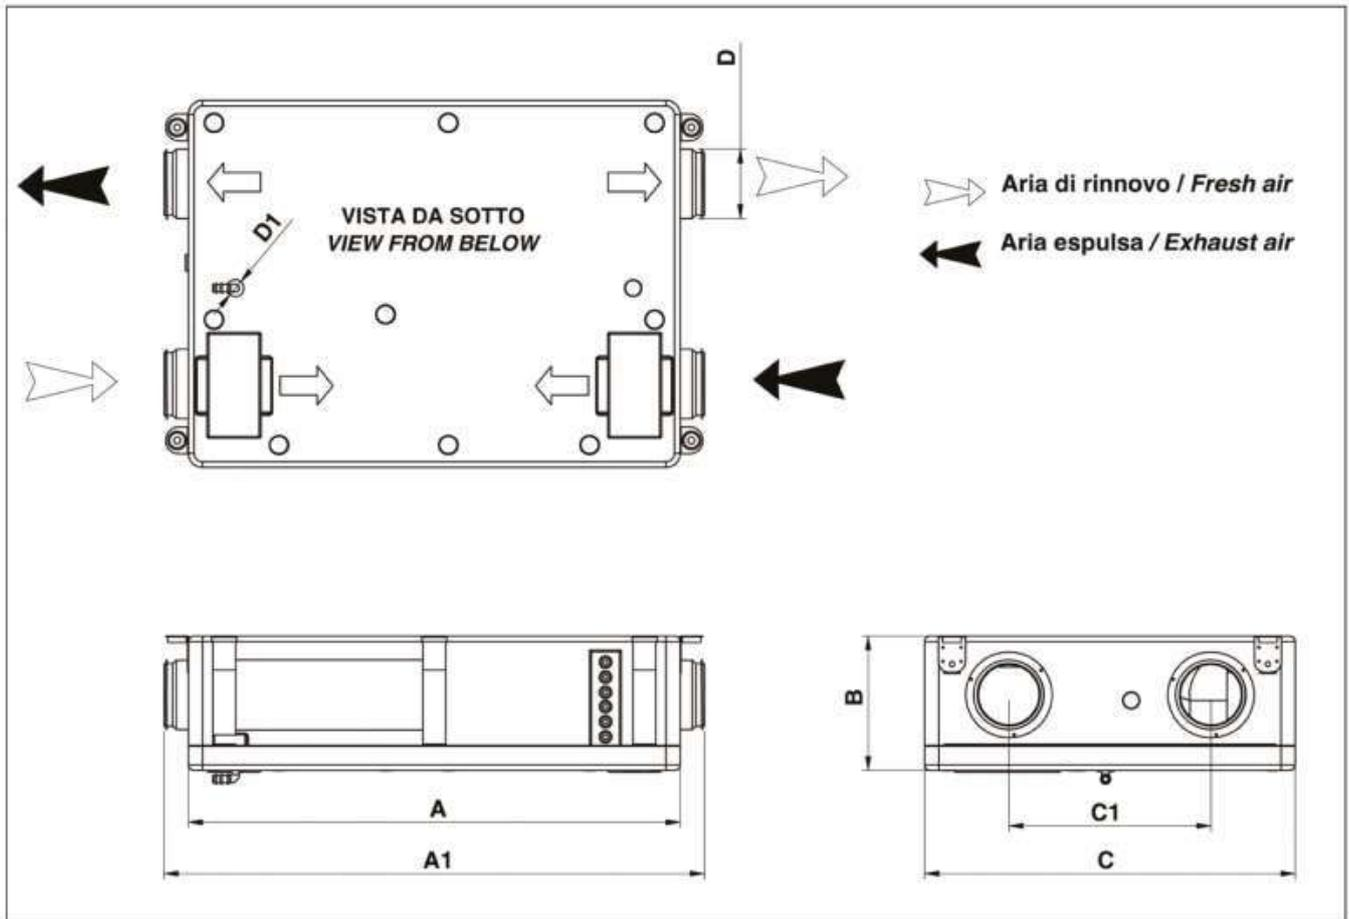

Fig. 5
1.7 DIMENSIONI E PESI (Fig. 5)
1.7 DIMENSIONS AND WEIGHTS (Fig. 5)